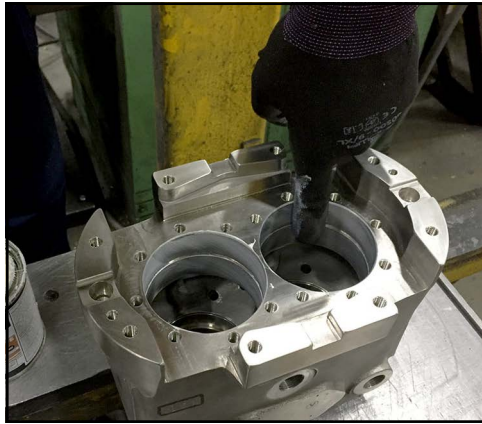

Figure 196 - Spread even layer
2. Rub a finger around the bore to spread the anti-seize in a thin, even layer around the inner lip of the bore as shown in Figure 196.